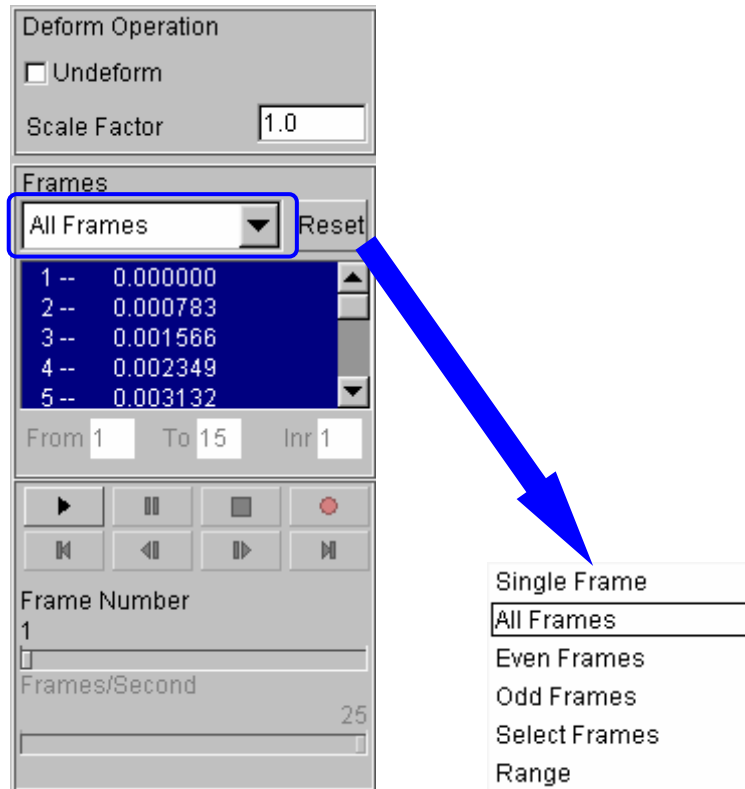

Figure 1.48 Animating deformation dialog box
1. The default **Plot State** is **Deformation**. In the **Frame** dialog, select **All Frames** and press **Play** button to animate the results. See Figure 1.48.